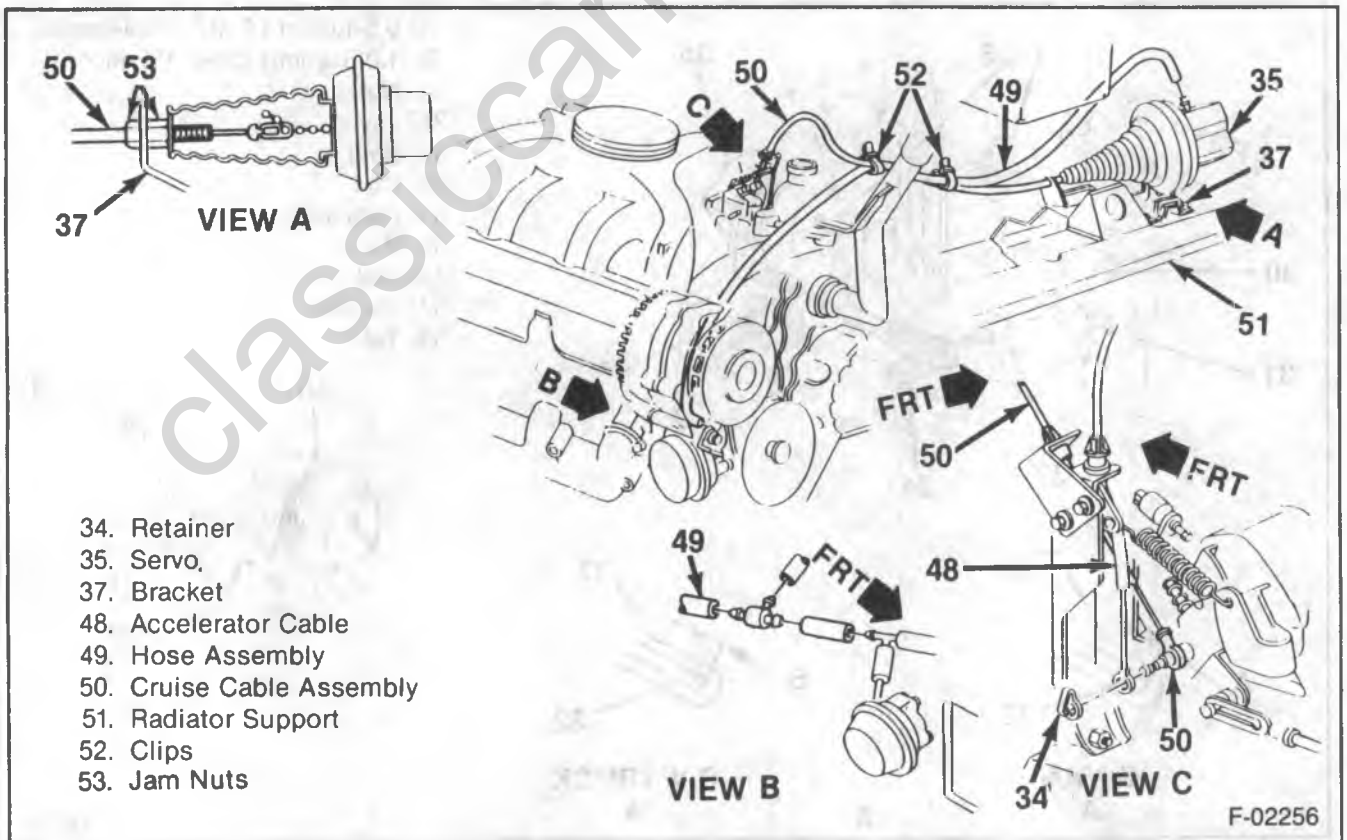
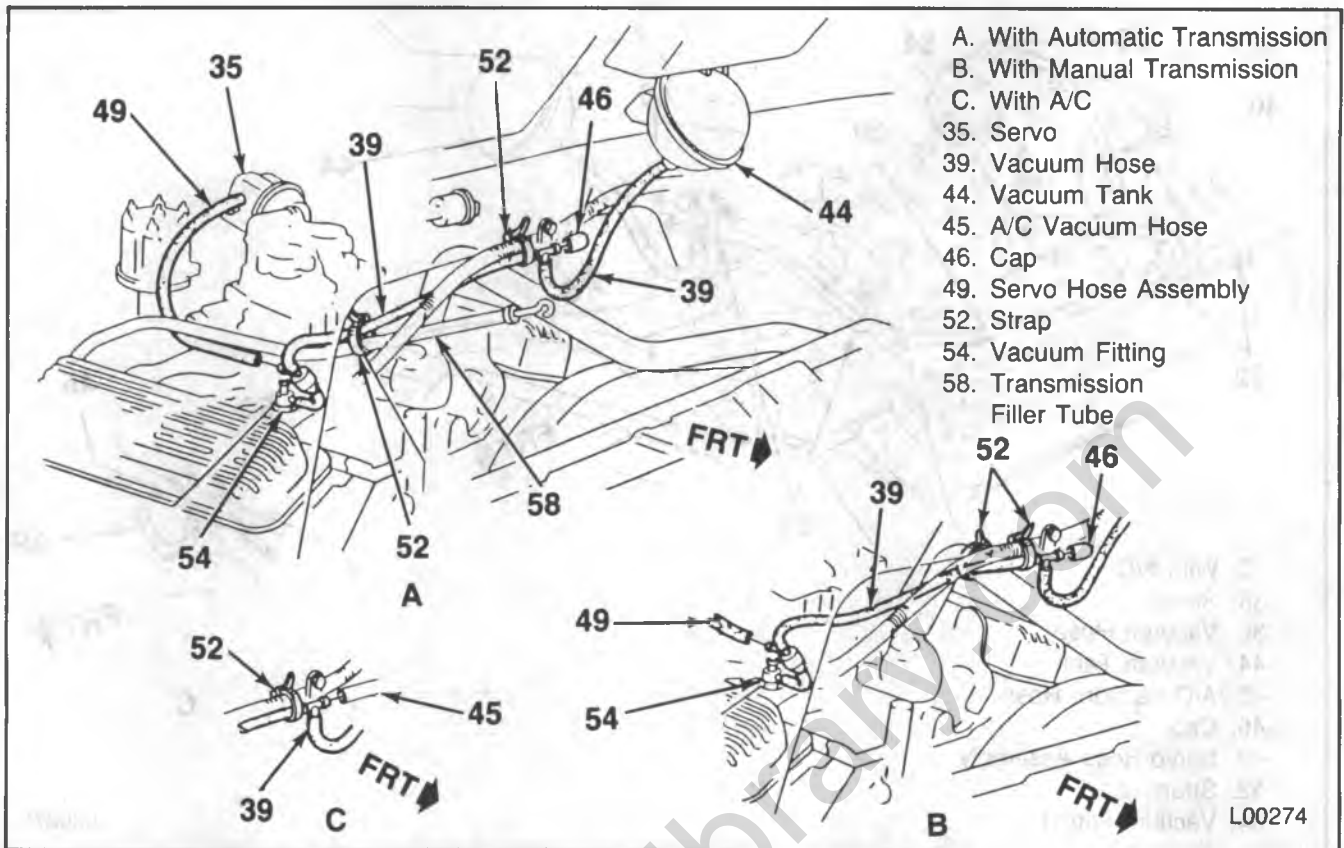

Figure 22 — Servo Mounting (G Van 6.2L)
Figure 23 — Vacuum Hose Routing (G-Van 4.3L)
- Cruise cable assembly (50) to the third ball on the servo chain (figure 22).
- Jam nut (53) until the cable sleeve at the throttle lever is tight but not holding the throttle open (figure 22).
5. Retainer (34).
6. Vacuum hoses (39) and hose assembly (49). Refer to figure 23 through 25 for hose routings.